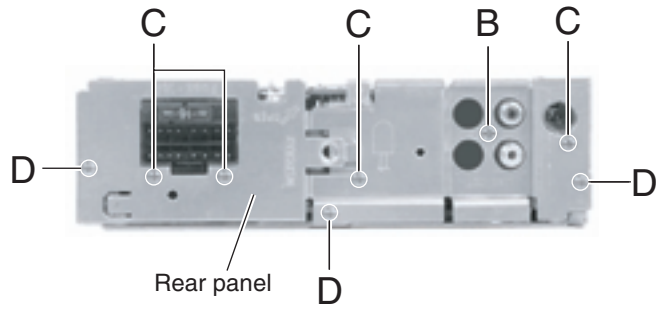

Fig.7
■ **Removing the main board (See Fig.7, 8)**